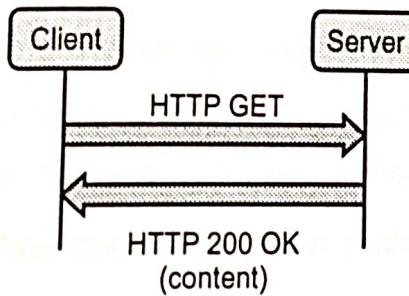

Fig. 4.2.1 Request / Response model
- In the Request/Response model, client requests information from the server and waits till the response is served from the server. Fig. 4.2.1 shows Request/Response model.